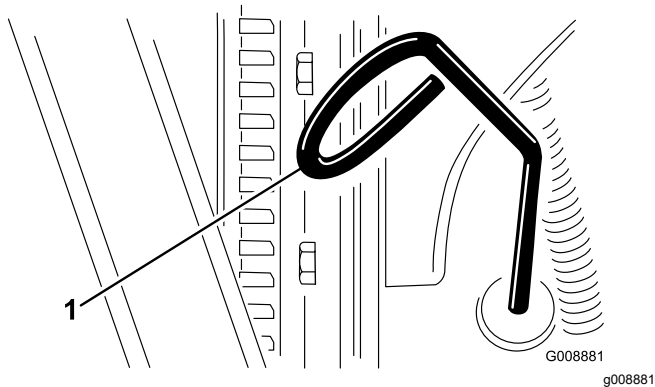

Figure 28
2. Remove the dipstick (Figure 28) and wipe it with a clean rag.